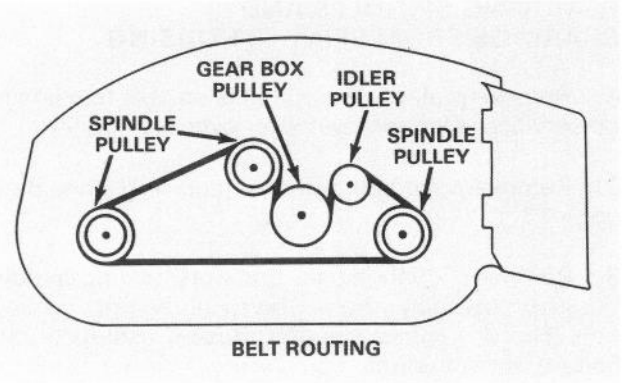

Figure 20
4. Install new belt around spindle, gearbox and idler pulleys (Fig. 20) and tighten gearbox mounting bolts.